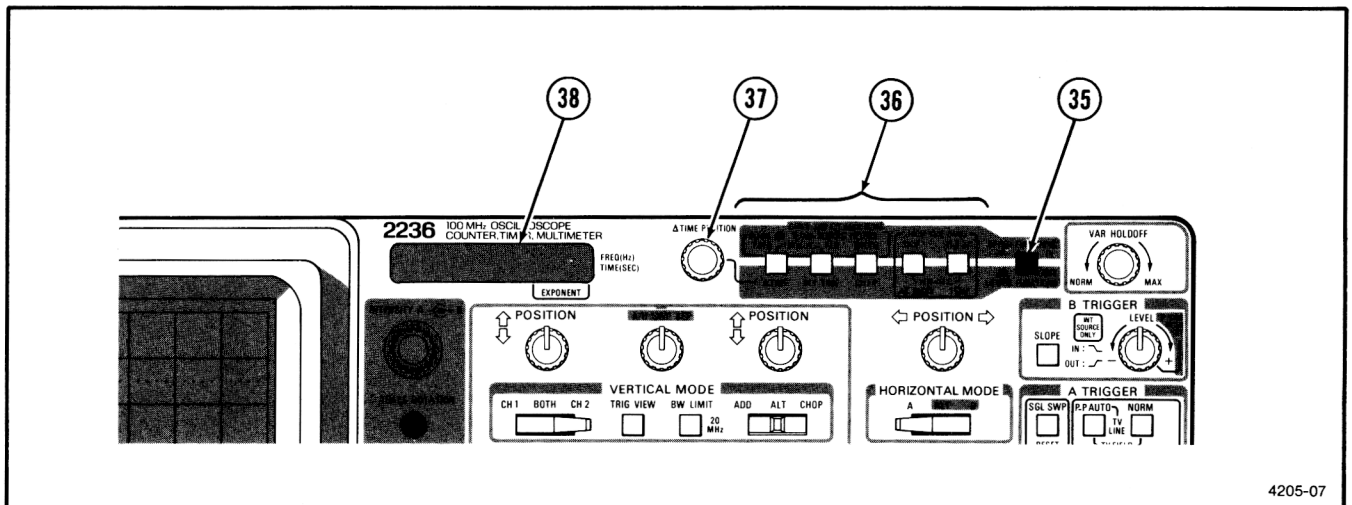

Fig. 2-7. Counter, timer, and multimeter controls and indicator.
Refer to Figure 2-7 for location of items 35 through 38.